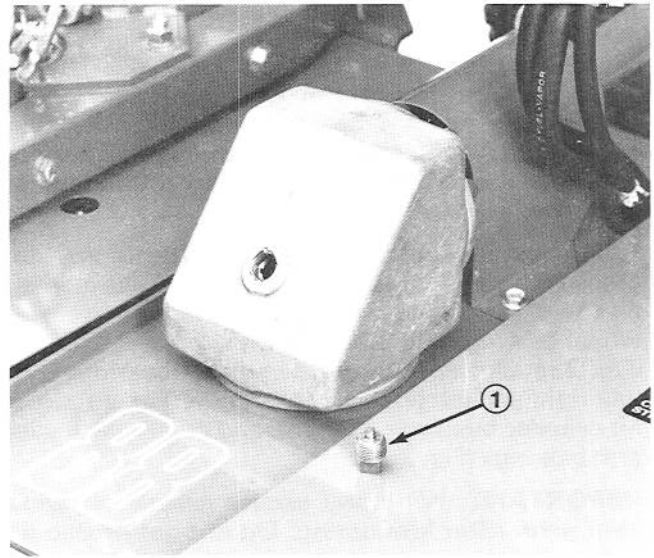

Figure 27
2. Lower cutting unit so caster wheels are on a level surface. Remove filler plug (Fig. 27) from gear box and check level of lubricant. If level of lubricant is low add SAE 10W-30 or 10W-40 SE or SF engine oil until level is up to bottom of filler hole. Wipe any metal particles off filler plug and install filler plug.